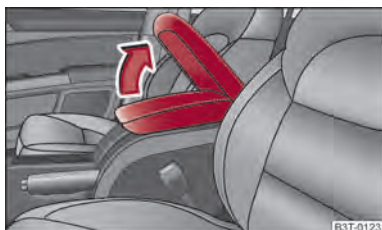

Fig. 100 Armrest: Storage compartment
- Open the lid of the armrest in the direction of arrow ⇒ fig. 100.